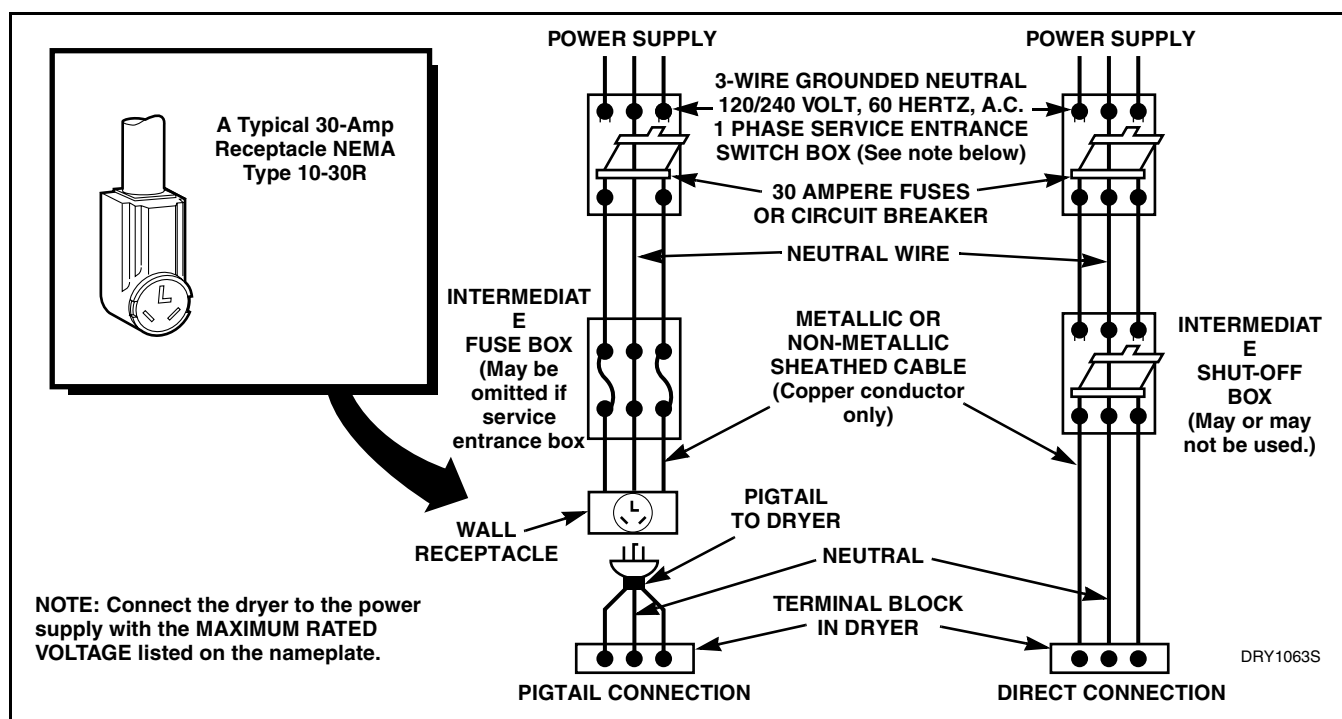

Figure 53
- The method of wiring the dryer is optional and subject to local code requirements. Refer to *Figure 53*.